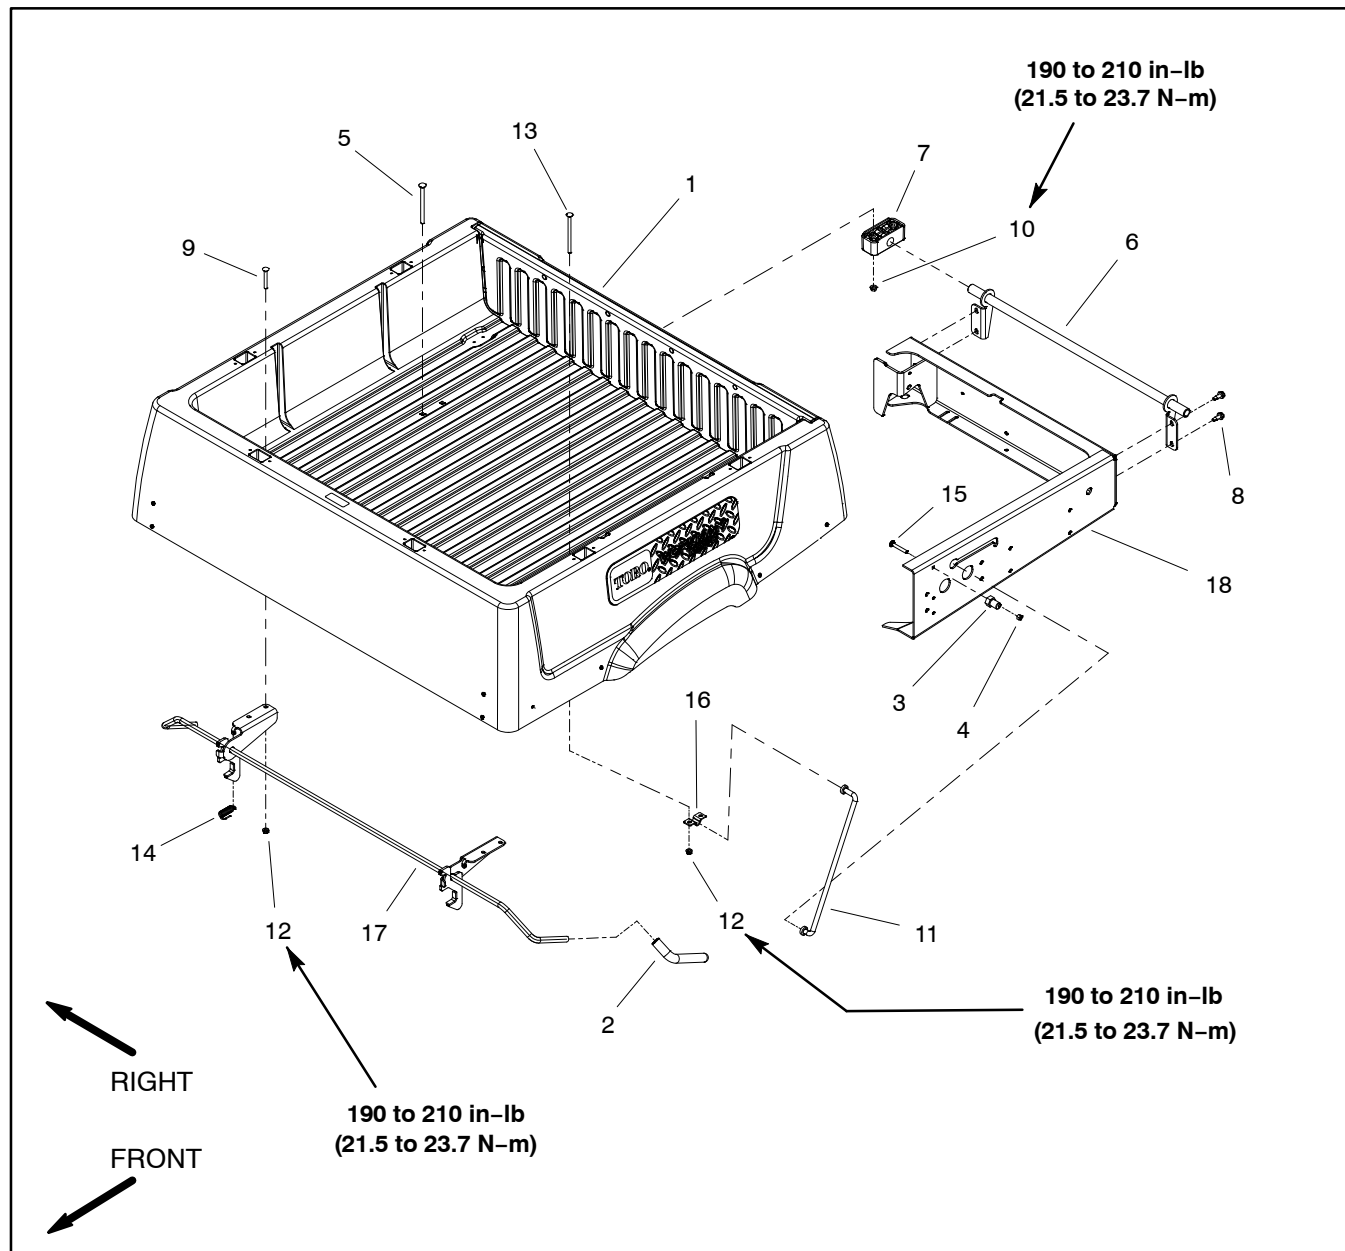

Figure 41
Removal (Fig. 41)
2. Disassemble cargo box as necessary using Figures 41 and 42 as guides.
Installation (Fig. 41)
1. Assemble cargo box using Figures 41 and 42 as guides.
A. When installing cargo box, use torque specifications identified in Figure 41.
C. Adjust latch pin (item 3 in Figure 41) so that cargo box is tight to frame when latched.